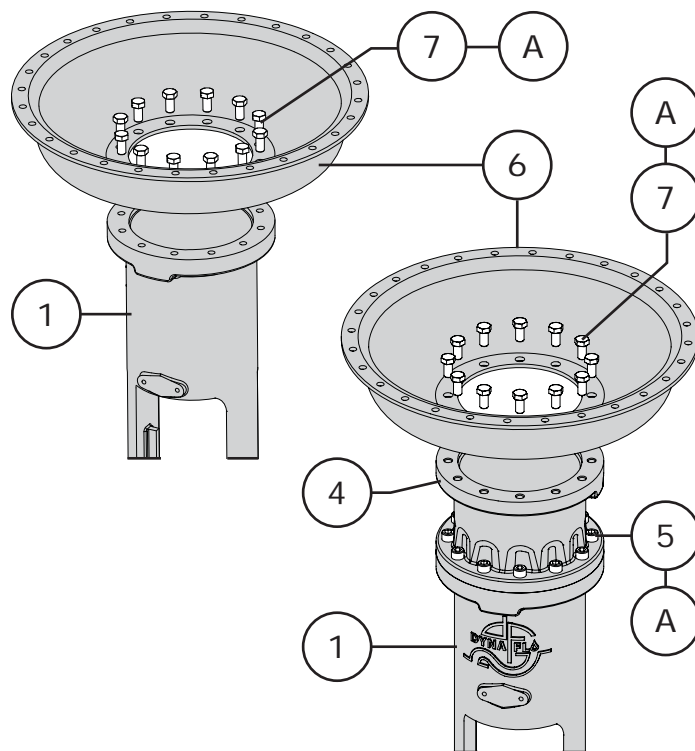

Figure 17 Lower Diaphragm Casing Assembly
- 1 Place the lower diaphragm casing (Key 6) on top of the yoke (Key 1) or spring case adapter (Key 4). Refer to Figure 17.